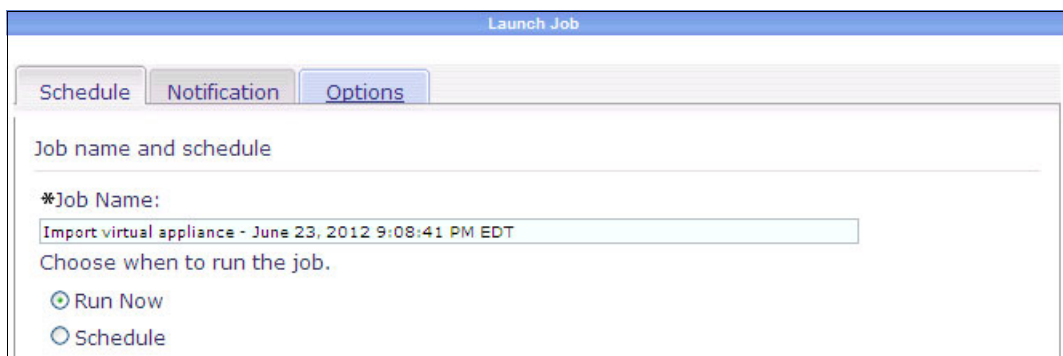

Figure 9-121 Run appliance import now
- Select **Run Now** and click **OK** to start the virtual appliance import process as shown in Figure 9-121.